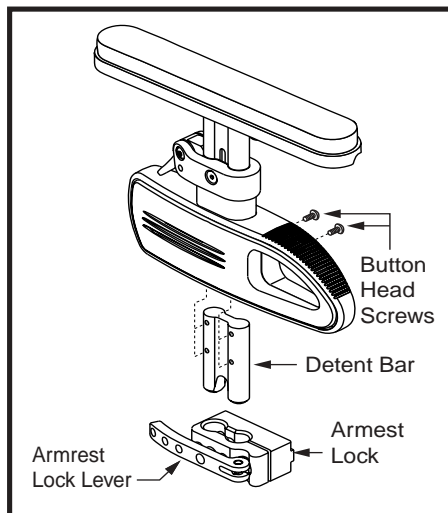

Figure 21. Pediatric Single Post Quick Height Adjustable Armrest Bottom Height Adjustment
1. Remove the two button head screws from the detent bar. See figure 21.